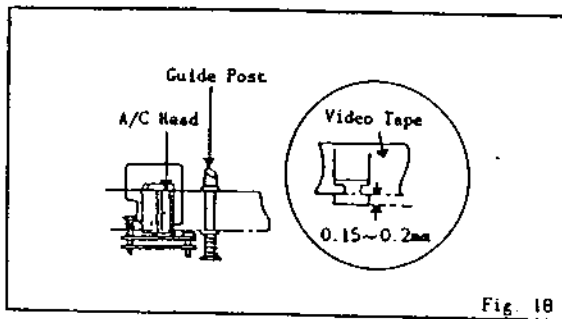

Fig. 18
3. Confirm that the height and tilt of A/C Head against the tape are as per Fig. 18.
5. Height of A/C Head against the tape should be as per Fig. 18.